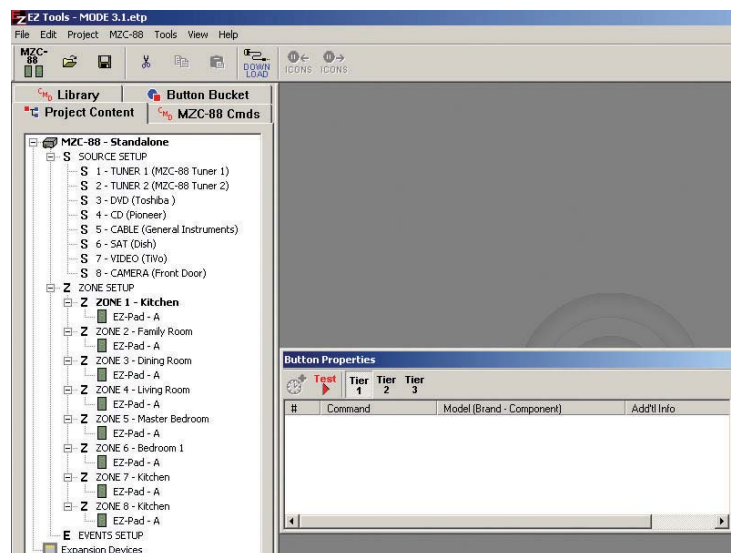

Figure 23
3. In the **Open Window**, highlight and left click the project to be modified. The project will open to the default screen as shown in **Figure 23**.